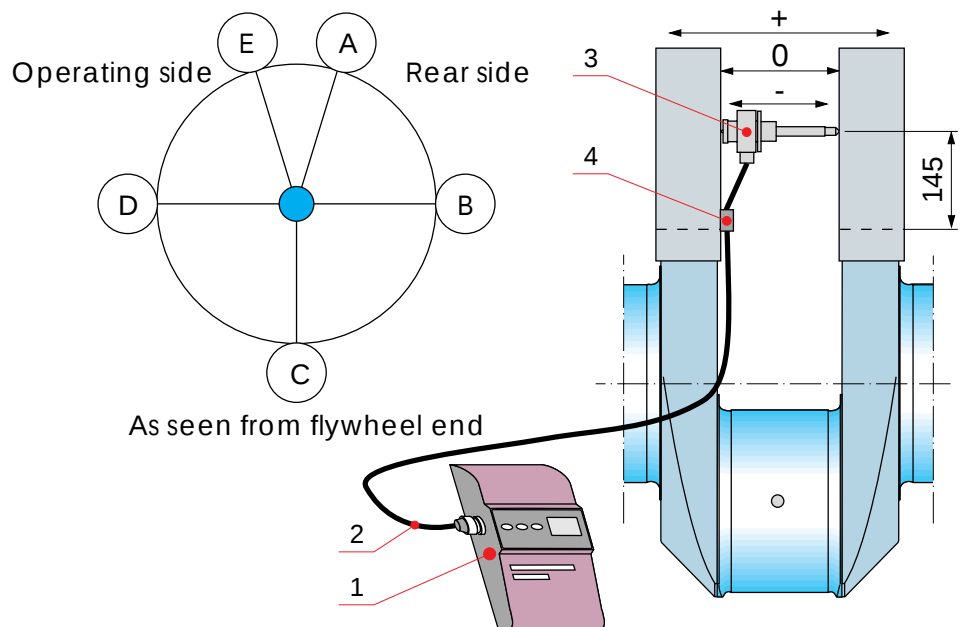

Fig 11-1
5 Turn crank of the first cylinder near BDC (bottom dead centre) and fit the transducer to the centre marks (marked with yellow paint mark) between two crank webs. The distance between centre mark and contact surface of the counter weight and crank web is 145 mm, see Fig 11-1.
The distance between the transducer and the connecting rod should be as small as possible. Fix the cable on the crank web by using suitable bandage or magnetic holder (4), see Fig 11-1.
7 Turning the crank and read deflections in the marked positions according to Fig 11-1. Starting point for clockwise rotating engine is measuring point "A" and counter-clockwise rotating engine measuring point "E". B is rear side, C is TDC (top dead centre), D is operating side, A and E are BDC (bottom dead centre). Record readings in the Measuring Record: "Crankshaft alignment".